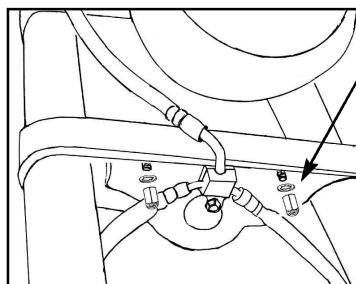

Figure 1.
- B. Substitute the two nuts (figure 1) with two Lock Washers (on top) and two Hex Coupling Nuts - torque to manufacturer's specifications.